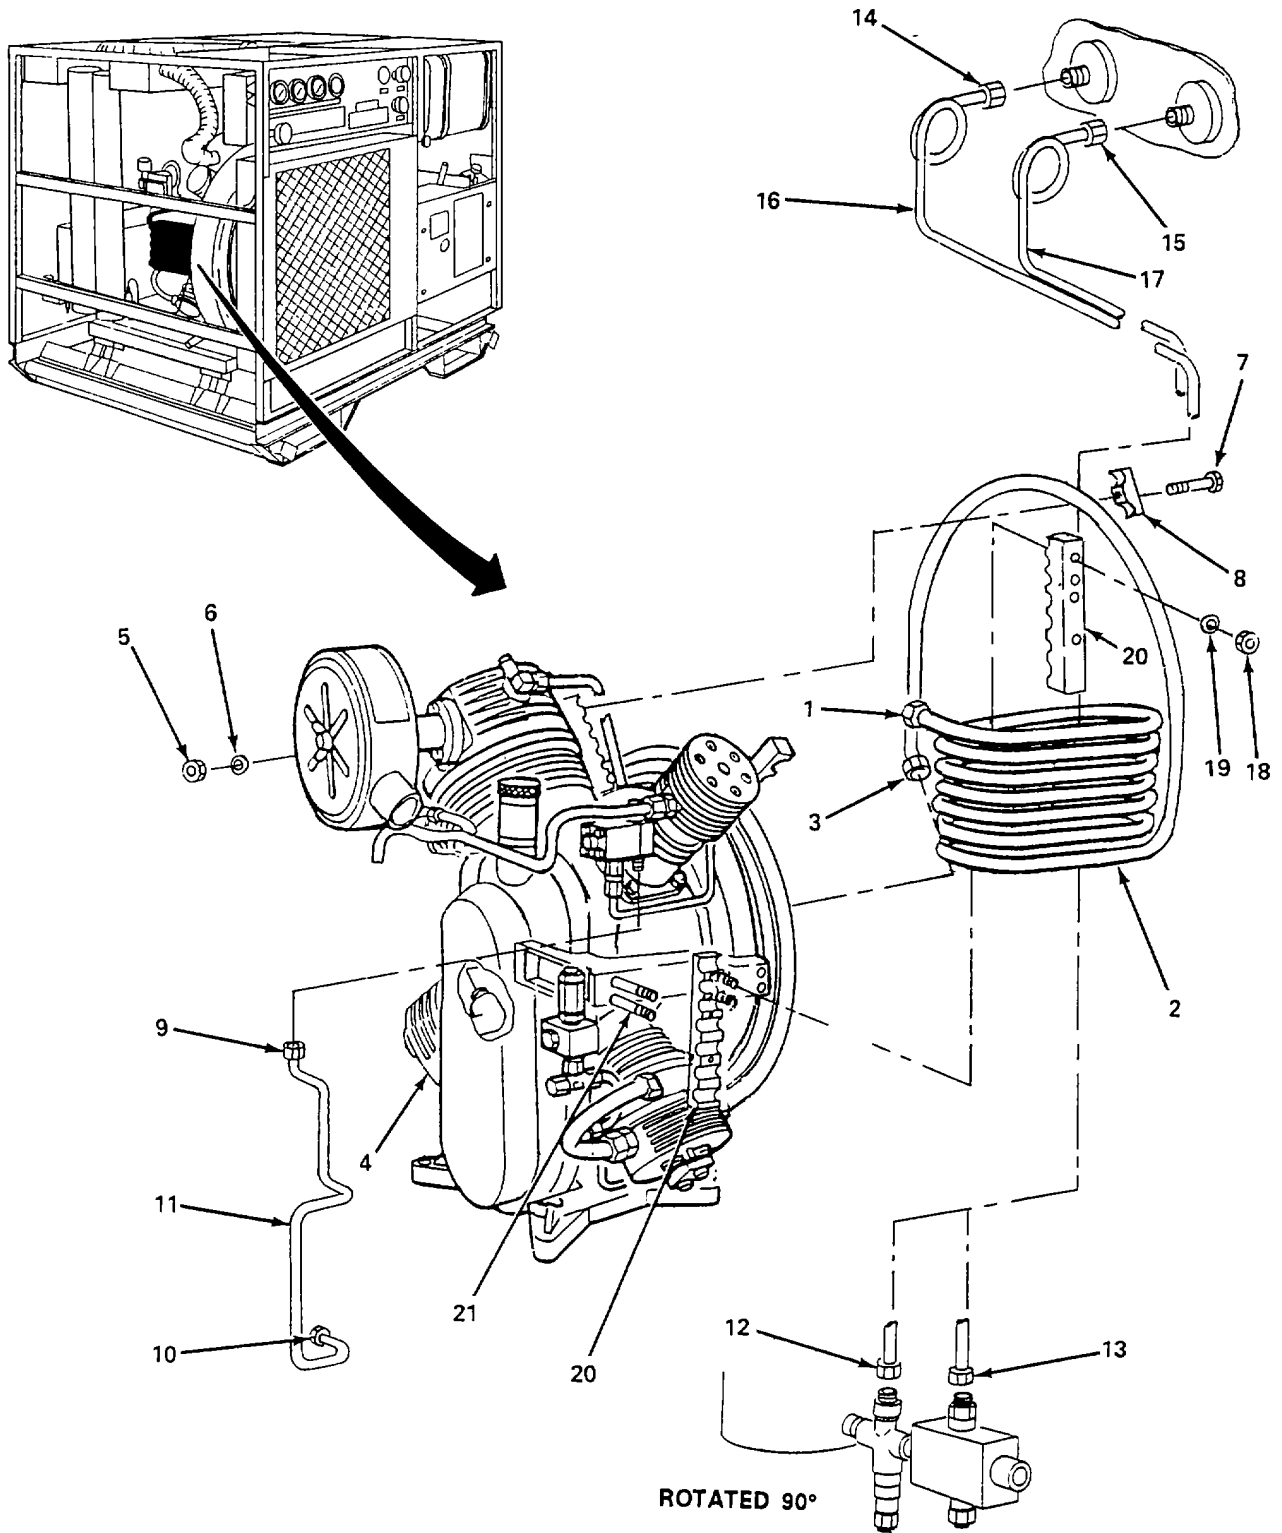

Figure 5-17. Compressor 3rd Stage Intercooler, Replace.
- (3) 3rd stage intercooler. (figure 5-17)